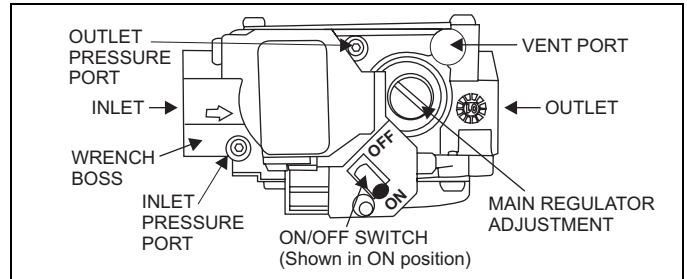

FIGURE 27: Gas Valve
Inlet and manifold gas pressure may be measured by connecting the "U" tube manometer to the gas valve with a piece of tubing. Follow the appropriate section in the instructions below. Refer to Figure 27 for a drawing of the locations of the pressure ports on the gas valve.
1. Refer to Figure 27 for location of pressure regulator adjustment cap and adjustment screws on main gas valve.